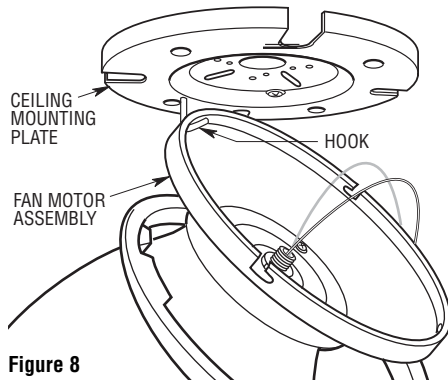

Figure 8
- 5. Place the motor assembly onto the ceiling mounting plate hook during wiring fan motor assembly to outlet box (Figure 8).